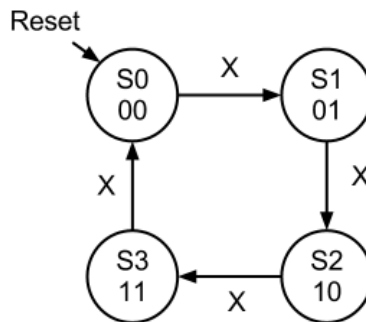

Figure 4: State Transition Diagram for Color Generation FSM
In order to verify that the VGA controller works as expected, we will be using it with a top-level schematic that generates RGB values to display. To generate RGB values, we will use a simple finite state machine that changes state every time a button is pressed. This Moore-type FSM will have a single input X, and a two-bit output S, whose value is simply the state number (so, this is basically just a four-bit counter). The state transition diagram is shown below in Figure 4.
Unfortunately, we cannot simply connect the X input of the FSM in Figure 4 to a push button from the DIO4 peripheral board. This is because the button on the board is being pressed by an actual person, and as a result, the button will likely be high for hundreds of milliseconds. Relative to the 25 MHz clock we will be using with this FSM, this button press will span millions of clock cycles. In order to prevent the FSM counting these (relatively) long pulses as multiple button presses, we will be designing a module to perform the conversion shown in Figure 5.
2. Follow the directions in the VHDL Processes and FSM Tutorial to implement the color FSM module shown in Figure 4.